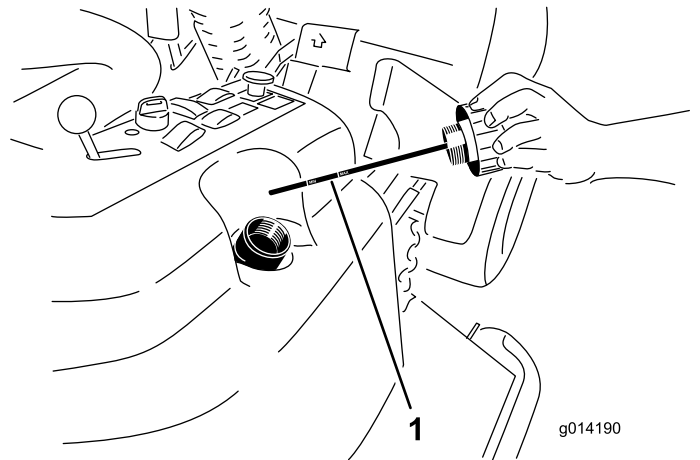

Figure 89
4. Remove the hydraulic-filler cap (Figure 89) from the filler neck.
5. Remove the dipstick and wipe it with a clean rag (Figure 89).
6. Screw the dipstick all the way into the filler neck; then remove it, and check the level of the fluid (Figure 89).